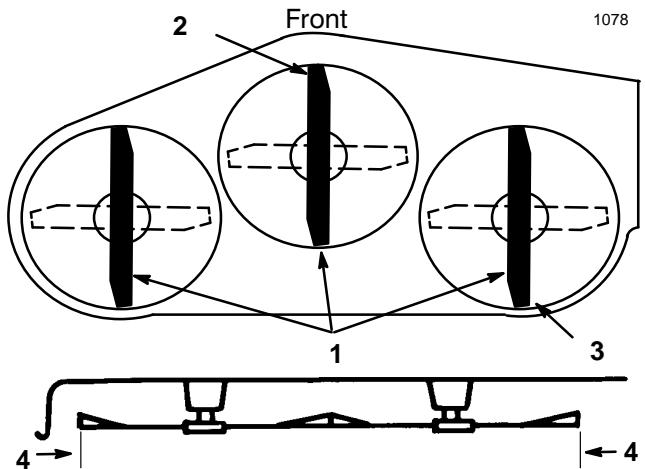

Figure 13
4. Carefully rotate blades so they are facing front and rear (Fig. 13).
5. Measure between the tip of the front blade (Fig. 13). and the tip of the rear blade to the flat surface. If the front blade tip is not 0–3/8” (0–9.5 mm) lower than the rear blade tip adjust front adjustment links.